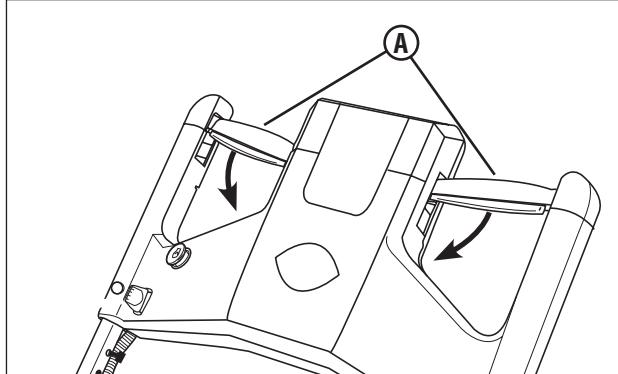

Figure 4: Propelling the mower
2. Begin slowly pushing the drive control (**A**, **Figure 4**) forward to propel the mower. Forward speed can be increased by pushing the drive control further forward.